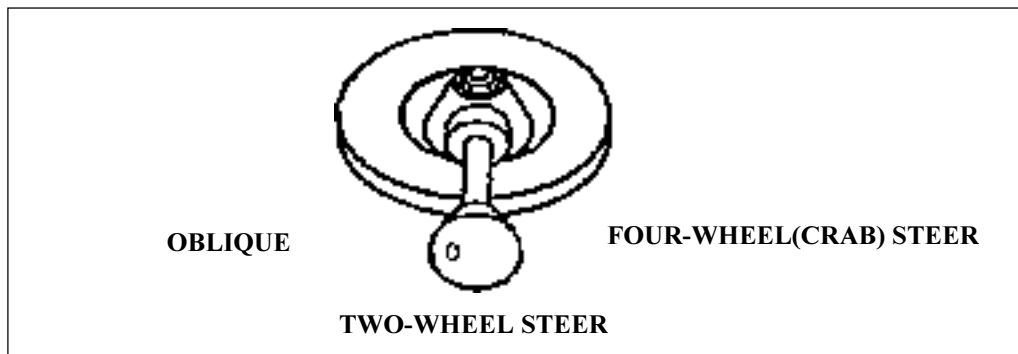

Figure 15. Steering Selector.
3. Position the steering selector lever (Figure 15) in the desired mode of steer, either, **OBLIQUE** (left position) , **TWO-WHEEL STEER** (center position) or **FOUR-WHEEL STEER(CRAB)** (right position) .